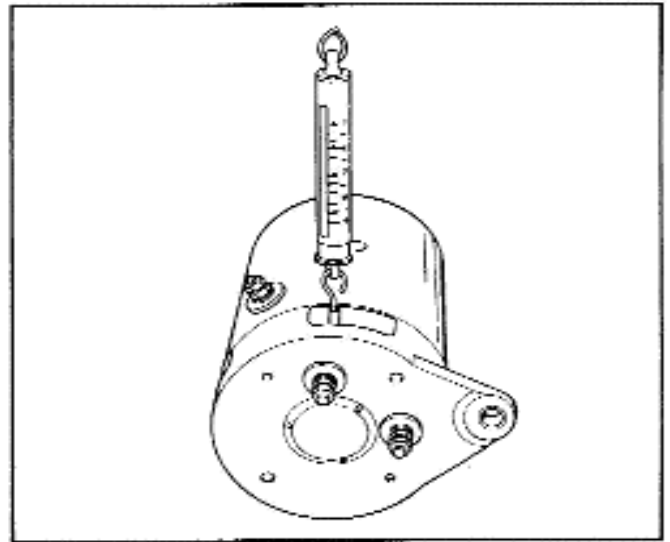

Figure 9 - Test Brush Spring Tension
2. Test brush spring tension. Use a scale. Figure 9, to test spring tension. Reject springs that apply a force less than specified.